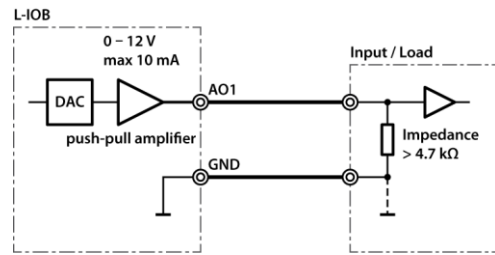

Figure 204: Analog outputs
Figure 204 shows the wiring of the analog outputs (AO). Observe that the analog outputs are labeled '0-10V OUT' but are in fact capable of delivering over 11V.